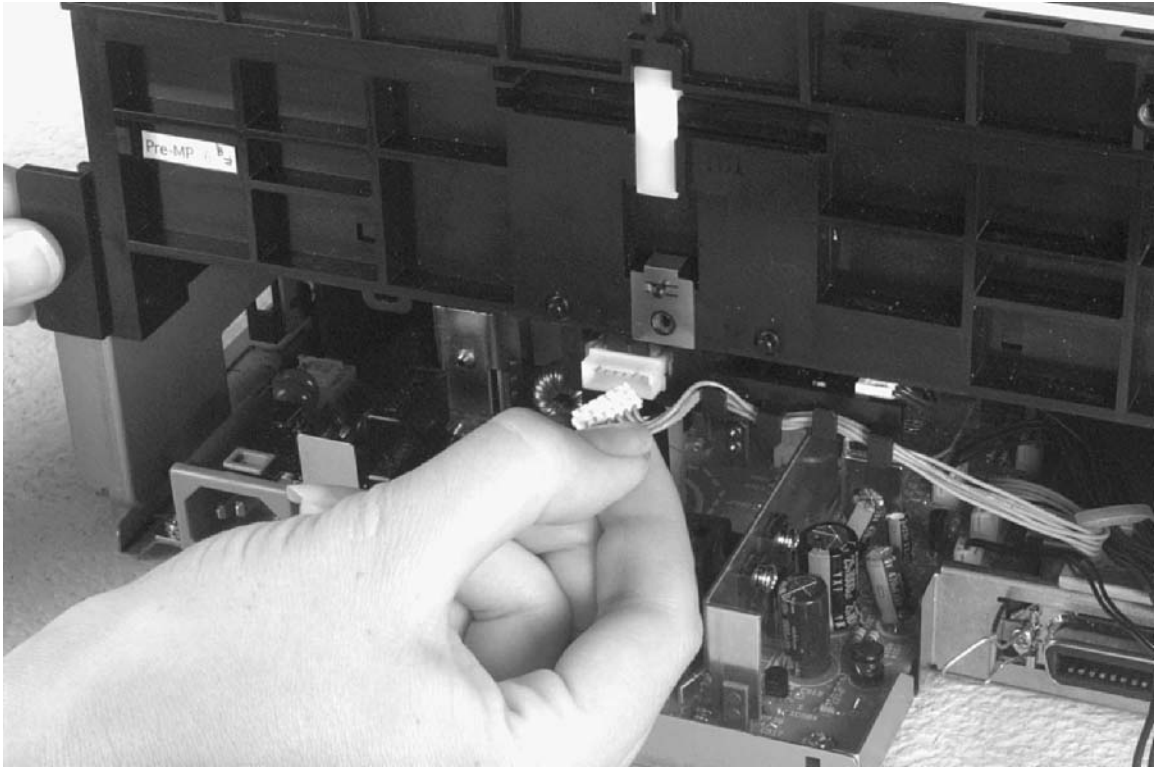

Figure 6-29 Paper Feed Frame removal (4 of 4)
7 Release the sensor unit connector (Figure 6-29).
- 4 Remove the back sheet metal plate and disconnect the PS202/PS204 connector (Figure 6-29).